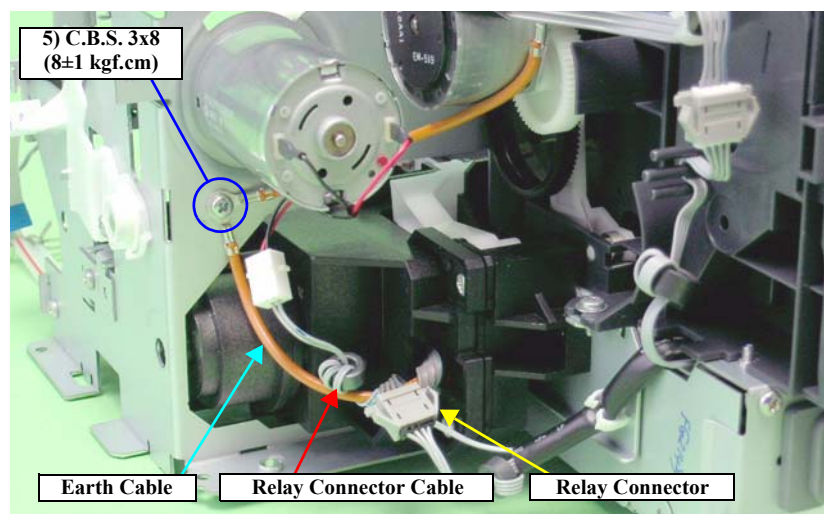

Figure 4-96. Disconnecting the Pump Motor Connector
- Referring to Figure 4-96, correctly route the Relay Connector Cable.